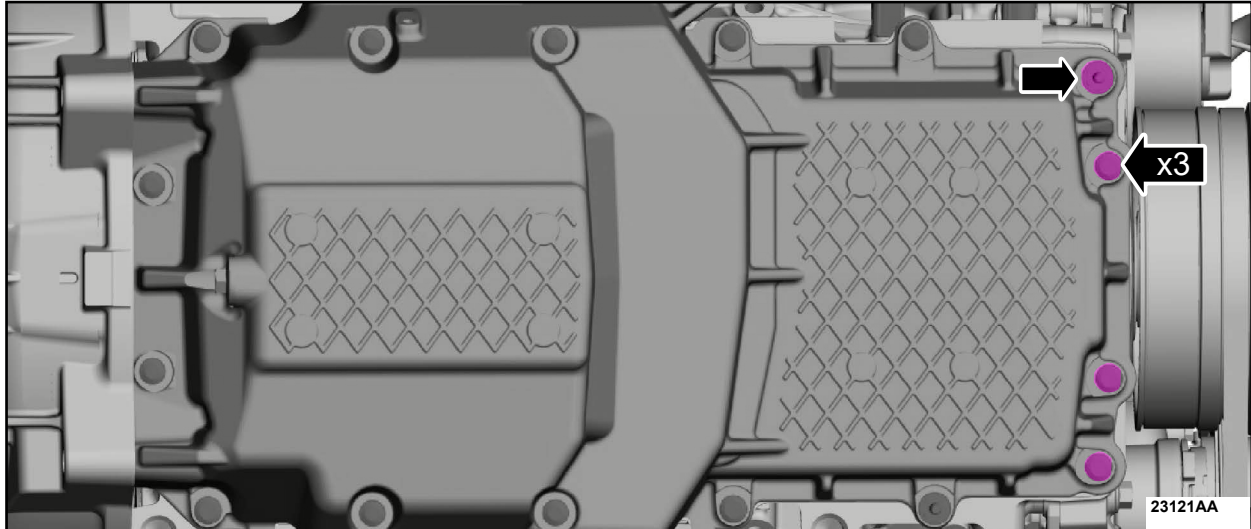

FIGURE 36
19. Remove the four oil pan to engine front cover fasteners. See Figure 36.